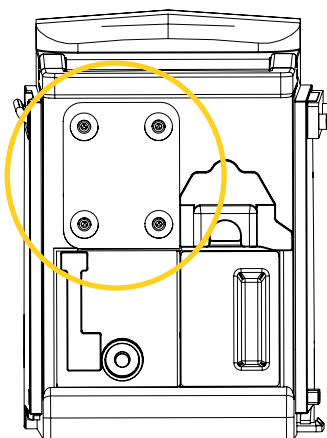

Figure 9: PCU Pole Clamp and mounting plate removed from the PCU
1. Locate and remove the PCU Pole Clamp and mounting plate located behind the PCU using a 9/64 in. hex key (Figure 9). The four (4) socket head screws will **not** be reused for this installation. Refer to your established internal protocols for storage specifications and/or Alaris PCU user documentation if needed.